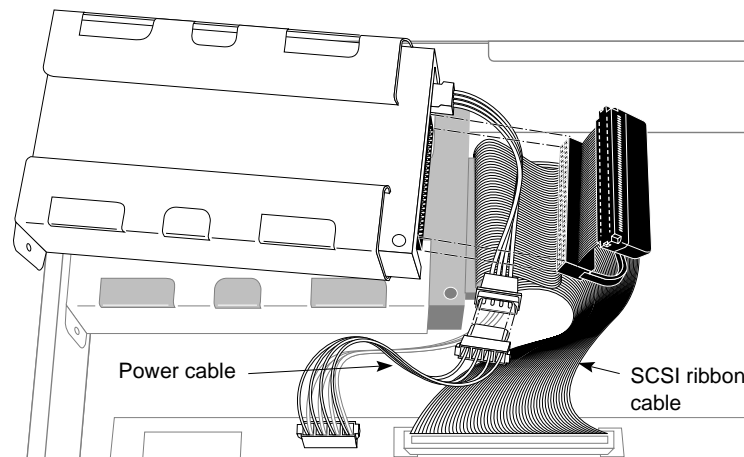

Figure 9-23 Disconnecting the Cables From the Floptical Disk Drive
- Disconnect the power cable connector from the drive, as shown in Figure 9-23.